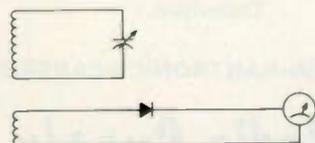
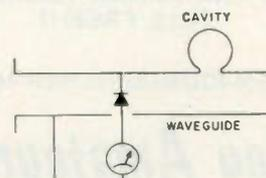

Fig. 1. Parallel resonant equivalent circuit of wavemeter.
Fig. 2. Cavity wavemeter circuit diagram.
A cavity wavemeter is a parallel resonant circuit (see Fig. 1). You have used these devices as traps in the output of your transmitters on the lower frequencies and in many other circuits of your equipment. The operation of a microwave unit isn't different from those. The Q of the circuit in
A cavity wavemeter circuit diagram might look like the circuit shown in Fig. 2. A difference in the circuit when using waveguide for the transmission line will be, for example, that the coupling loop in Fig. 1 is a
Fig. 2. Schematic of port function circuit. Unmarked capacitors are 0.1-uF, 25-volt disc ceramic. Tie enable inputs (pins 1 and 15), unused data inputs (pins 2, 4, and 6), and ground pin (8) of the 74LS368s to ground. Tie +5-volt pin (16) of each 74LS368 to +5 volts and bypass to ground via a 0.1-uF, 25-volt disc ceramic capacitor.